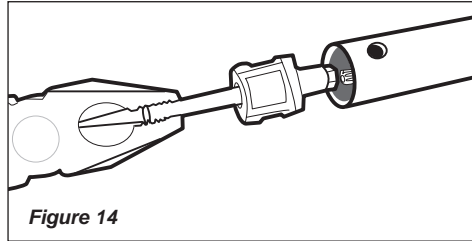

Figure 14
4. Pull the flexible shaft and bushing from the shaft tube assembly. See Figure 14. Clean the shaft thoroughly in solvent and dry with a clean shop towel.